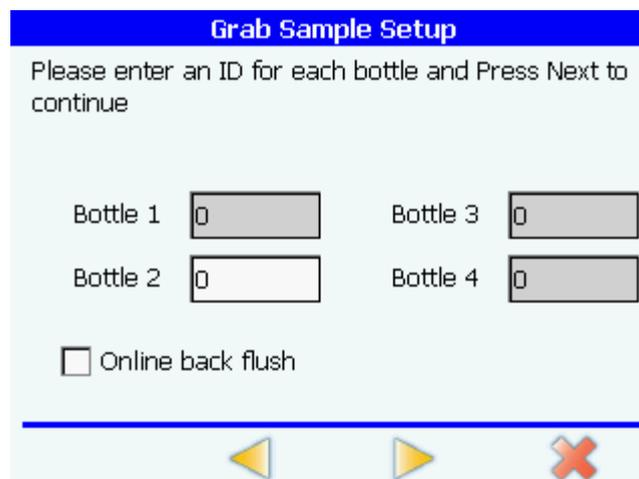

Figure 6-21 Grab sample setup dialog box
- 7) After entering the appropriate information about the grab sample, touch the forward icon. The grab sample setup dialog box appears. See Figure 6-21.